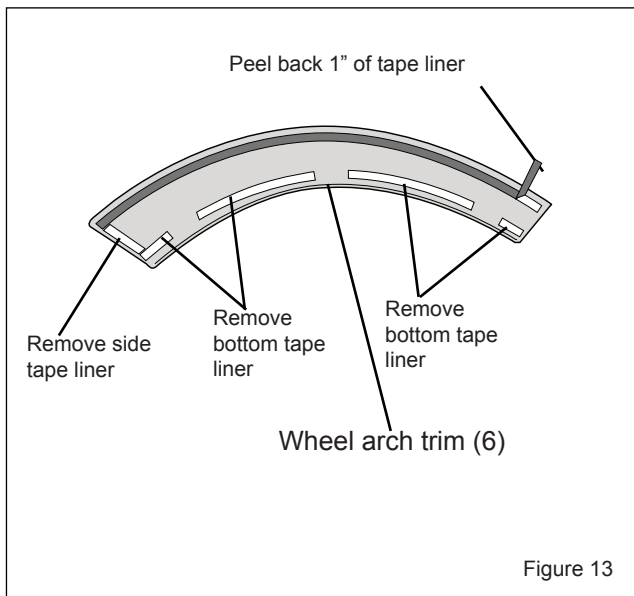

Figure 13
5. On the backside of wheel arch trim (6) remove bottom and side tape liners. Peel back 1" of tape liner from top of wheel arch trim (6). Figure 13